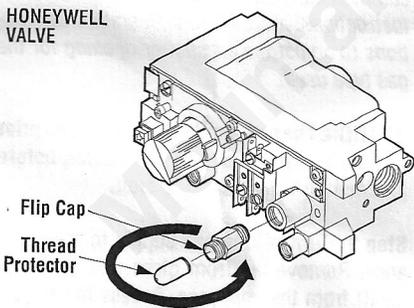

Figure 2
Step 5. Honeywell Systems - See **Figure 2**. Remove the black thread-protecting cap. Remove the conversion flip cap by turning it counterclockwise. Invert the flip cap so that the letters associated with the desired gas type are positioned closest to the valve body.